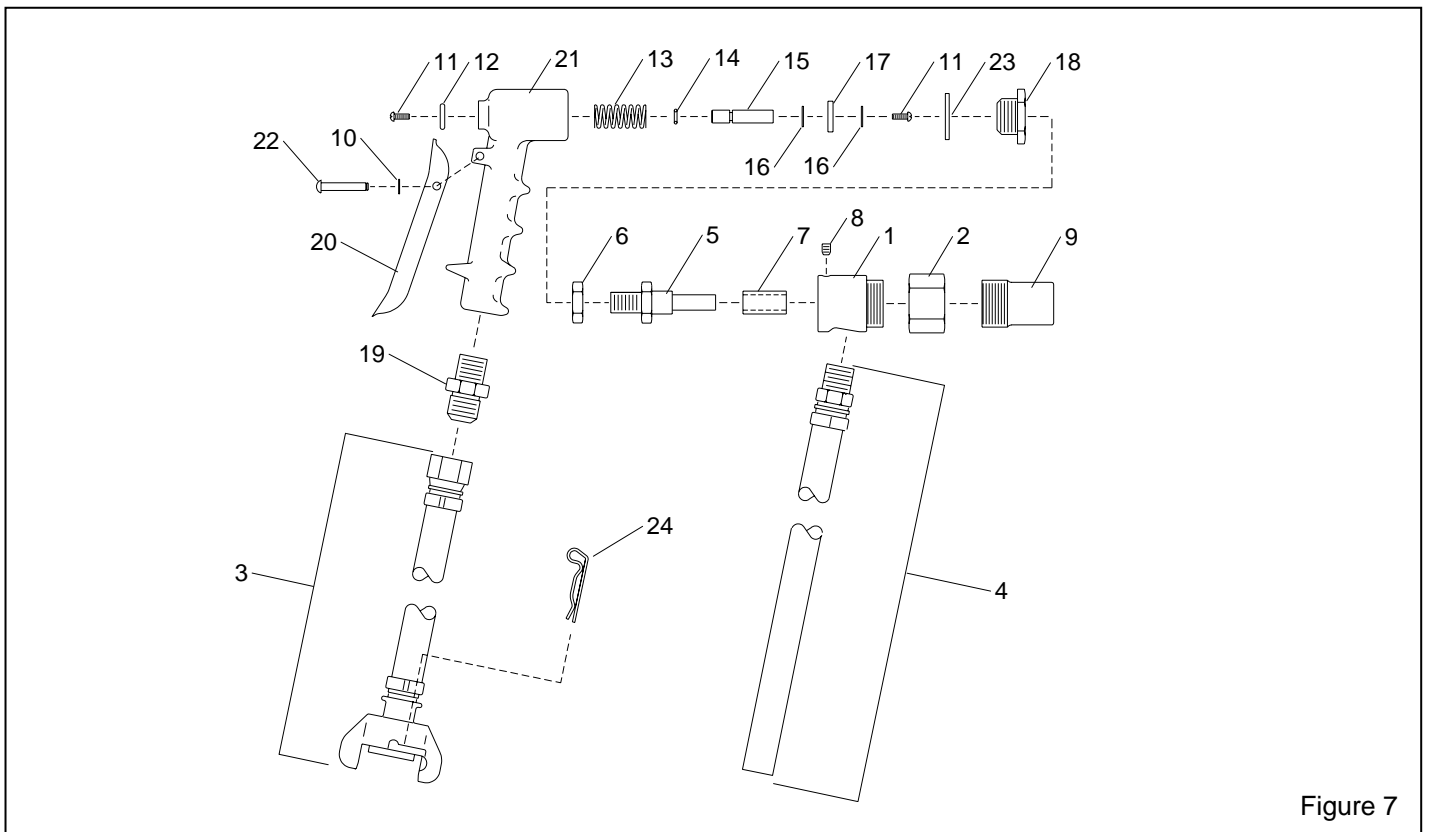

Figure 7
8.3 SGLH, Air gun, nozzle and hoses assembly Figure 7